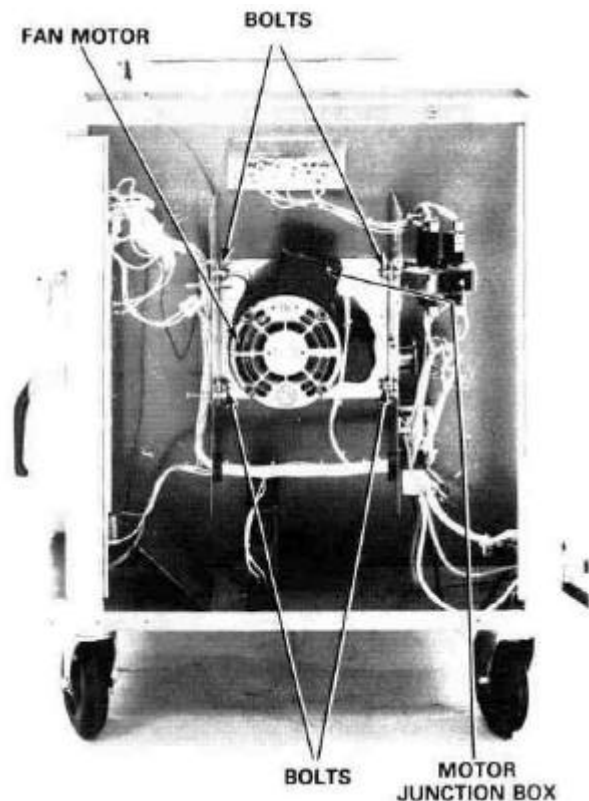

Figure 12
5. Remove the top of the motor electrical junction box located on the top of the motor and disconnect the wiring to the motor. (See Figure 12)